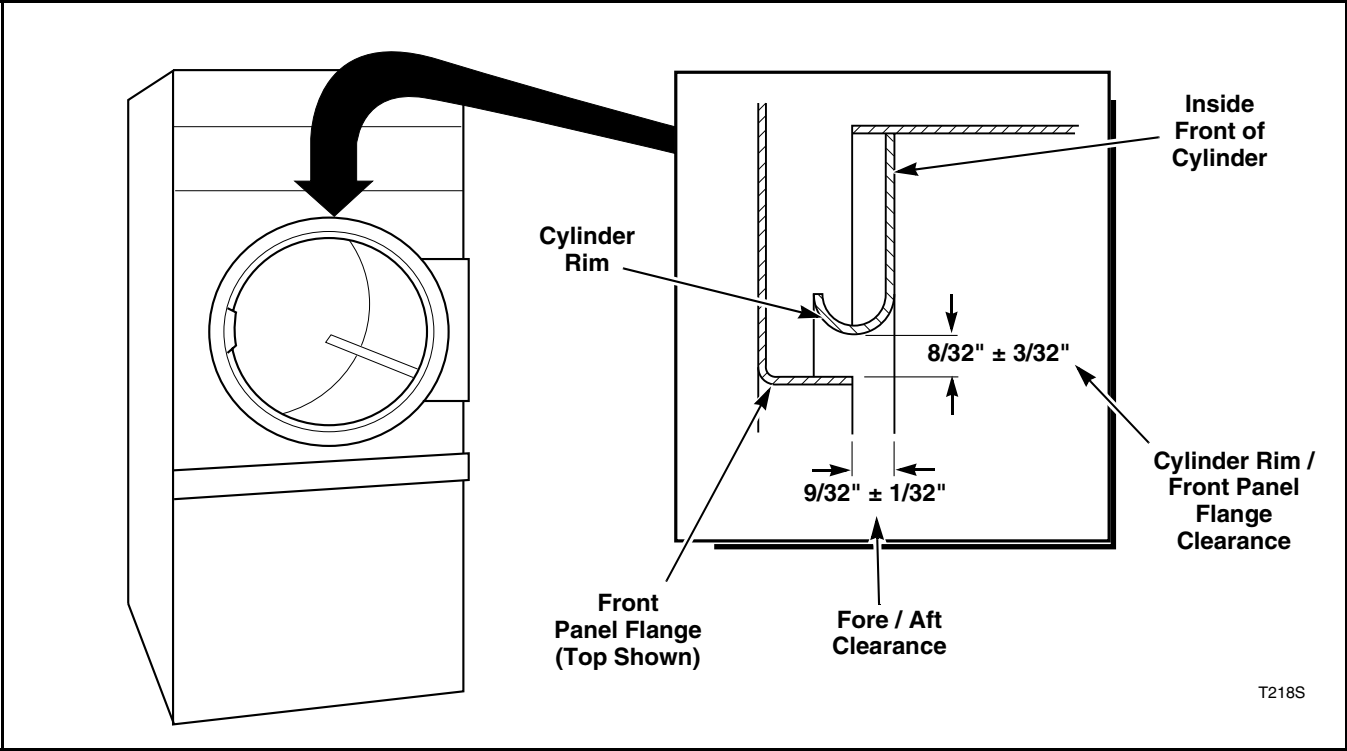

Figure 4
- b. Check the gap between the center of the front panel top flange and the cylinder rim. Proper adjustment is when the gap is  $8/32$  inch  $\pm$   $3/32$  inch. Refer to *Figure 4*. Perform steps “a” through “g” to adjust the cylinder rim/front panel flange clearance.
- c. Check the cylinder fore/aft clearance between the inside front of the cylinder and the edge of the front panel flange. Proper adjustment is when the gap is  $9/32$  inch  $\pm$   $1/32$  inch. Refer to *Figure 4*. Perform steps “h” through “m” to adjust the cylinder fore/aft clearance.